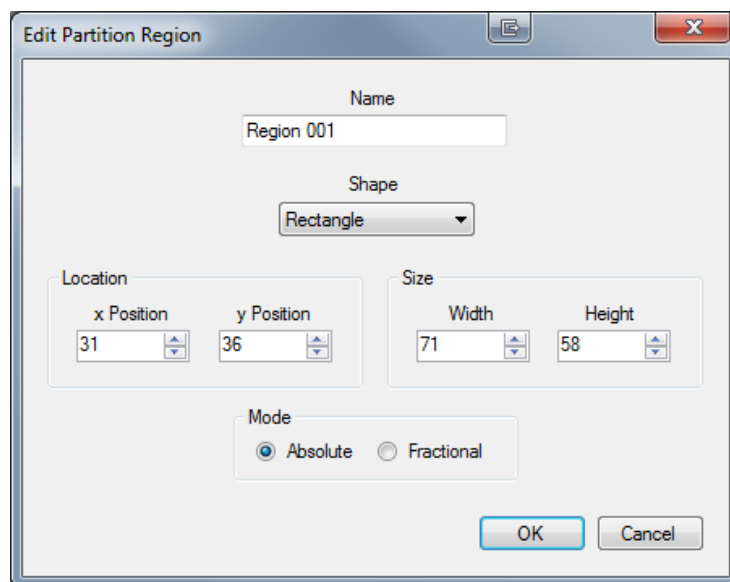

Figure 3.24 A Partition ROI Properties Window
- Right-clicking inside any ROI and choosing **Edit...** allows the region name to be changed as well as the shape, location, size, and Mode of the domain (**Figure 3.24**). Click **OK** when complete.